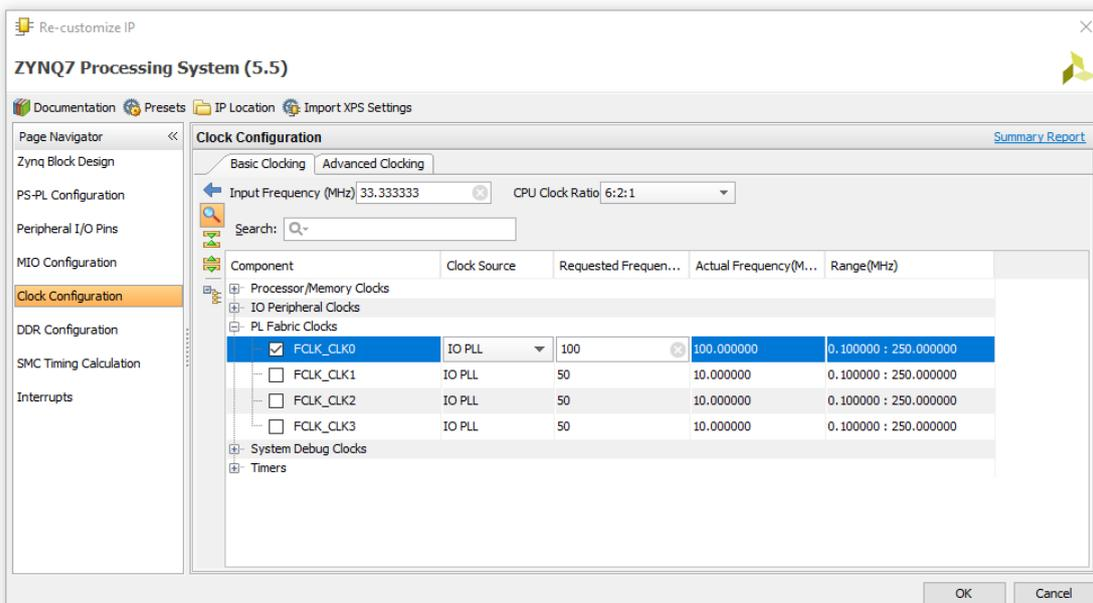

Figure 4: Clock Configuration
5. In **Clock Configuration** (Figure 4), enable the PL clock (e.g. 100MHz), which at least must be used for the AXI DMA IP core of Figure 1.